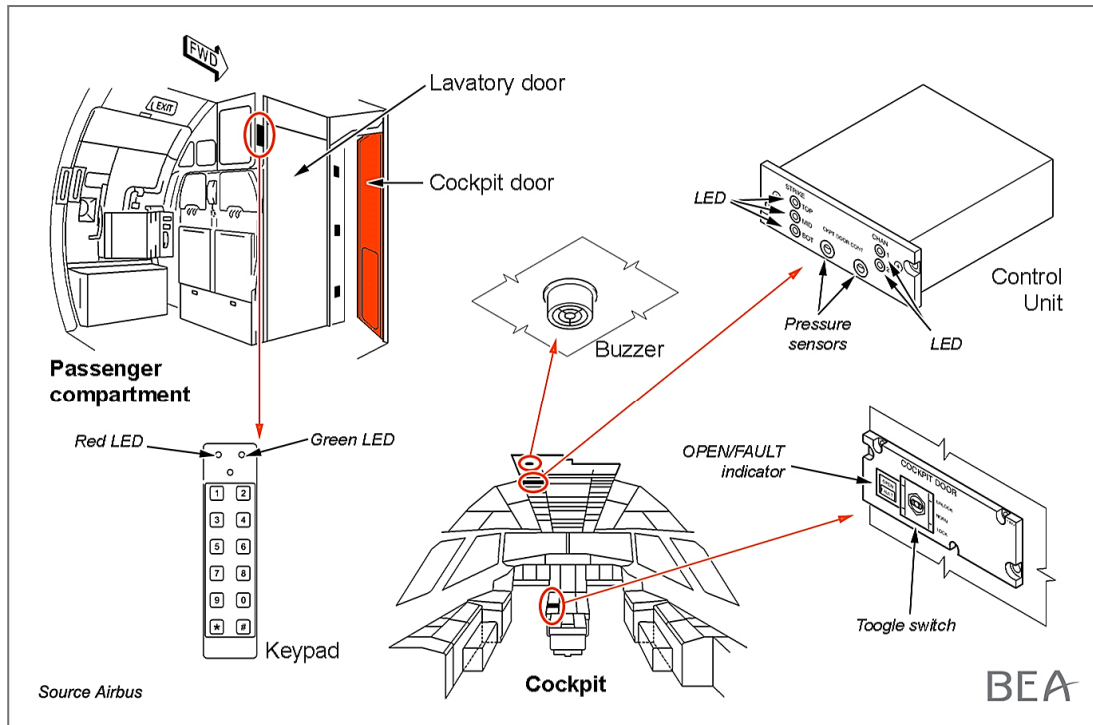

Figure 3 - cockpit door locking system
- ❑ A three-position switch, located in the cockpit on the centre pedestal (see figures 3 and 5). A return spring keeps the switch in the NORM position. Manual input is used to select the UNLOCK or LOCK position. There is also an indicator next to the switch, labelled OPEN and FAULT.